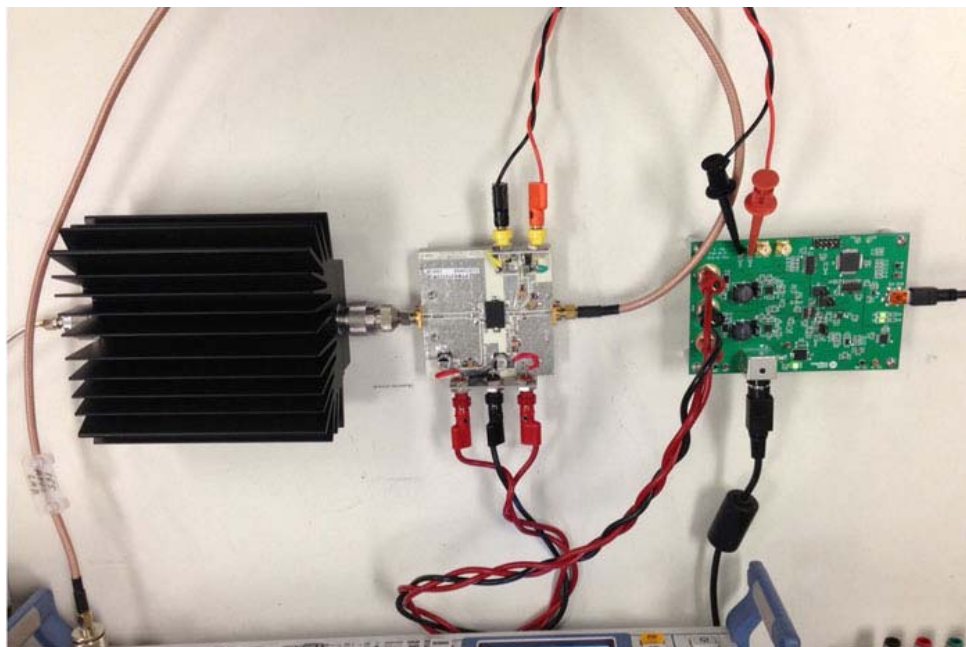

Figure 7. Connections of the MAXREFDES39# board with the PTMA210152M EV kit.
- Necessary cables to hook up the MAXREFDES39# board and power amplifier EV kit (**Figure 7**). In this case two red and one black 12” Banana - Banana cables and one orange and one black 12” Banana – Mini-grabber cables are used.
- If the above tests pass, then connect the Power Amplifier EV kit as shown in **Figure 7**.